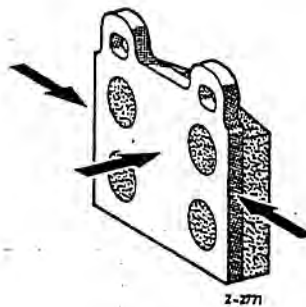

Fig. 42-10/22a
9. Rub Molykote Paste "U" on the points of the friction pad that are marked in Fig. 42-10/22a.
**Note:** The friction pads 1 for the front wheel brake have been provided with a rain groove. Friction pads without this groove can be remachined by means of a two-lipped 3 mm end mill. For groove width and depth see Fig. 42-10/26.